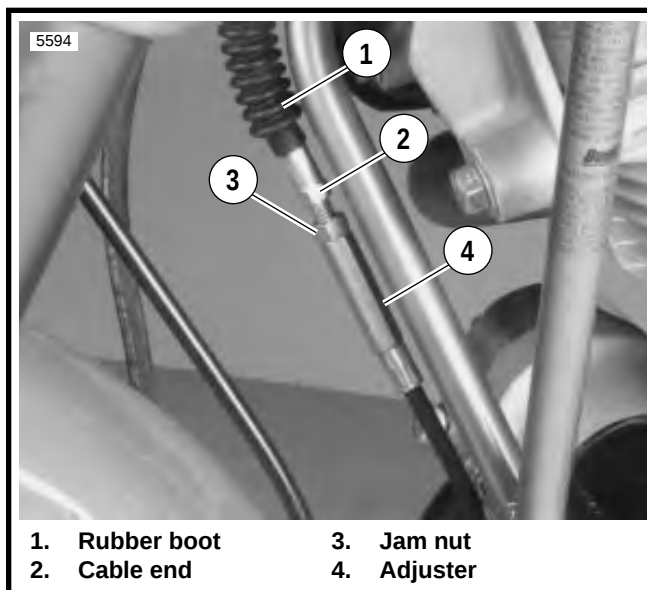

Figure 1-18. Clutch Cable Adjuster Mechanism
2. See Figure 1-18. Slide rubber boot (1) upward to expose adjuster mechanism. Loosen jam nut (3) from adjuster (4). Turn adjuster to shorten cable housing until there is a large amount of freeplay at clutch hand lever.
- b. See Figure 1-18. Adjust freeplay by turning cable adjuster (4).
- c. Tighten jam nut (3) against adjuster (4).
- d. Slide boot (1) over cable adjuster mechanism.
8. Install clutch inspection cover (2). Tighten TORX screws with washers (1) in a crosswise pattern to 7-9 ft-lbs (9-12 Nm).